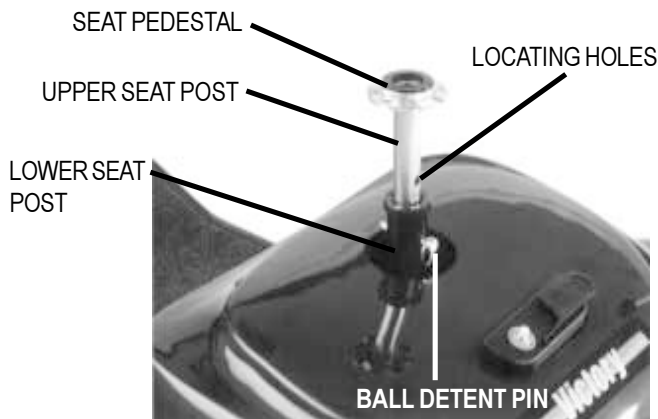

FIGURE 10. SEAT HEIGHT ADJUSTMENT
The seat can be repositioned to one of three different heights. See figure 10.
11. Gently place the rear shroud over the seat pedestal and slide it down into position. See figure 10. The reusable fasteners will hold it in place.
12. Carefully lift the seat and slide the seat post (on the bottom of the seat frame) into the seat pedestal. See figure 10.